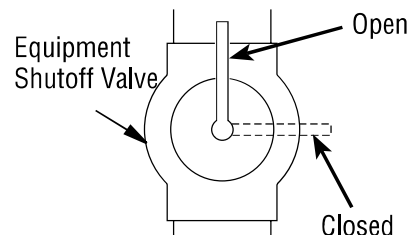

Figure 14 - Equipment Shutoff Valve
1. Close equipment shutoff valve (*see Figure 14*).
1. Open equipment shutoff valve (see **Figure 14, Page 14**).